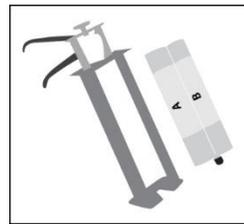
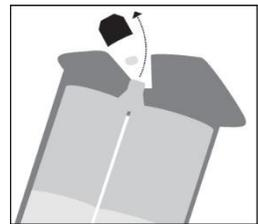
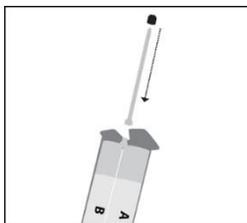

Figure 4: Install sealer cartridges
Figure 5: Remove nose plug with gun upright
Figure 6: Attach nozzle and secure with black
4. Remove the contents of the sealer kit from the shipping carton. Install the sealer cartridges into the sealer gun. *See Figure 4.* Point the gun upwards (nose up), and remove the nose plug. *See Figure 5.* With the gun still pointing upwards, mount the mixing nozzle and ensure that it is properly secured to the sealer cartridge. *See Figure 6.* Point the gun downward and squeeze the handle gently until the sealer is approximately 2 in. (5 cm) from the tip of the mixing nozzle. If circumstances do not permit the mixed sealer to be used within 10 minutes remove the mixing nozzle and insert a new nose plug.